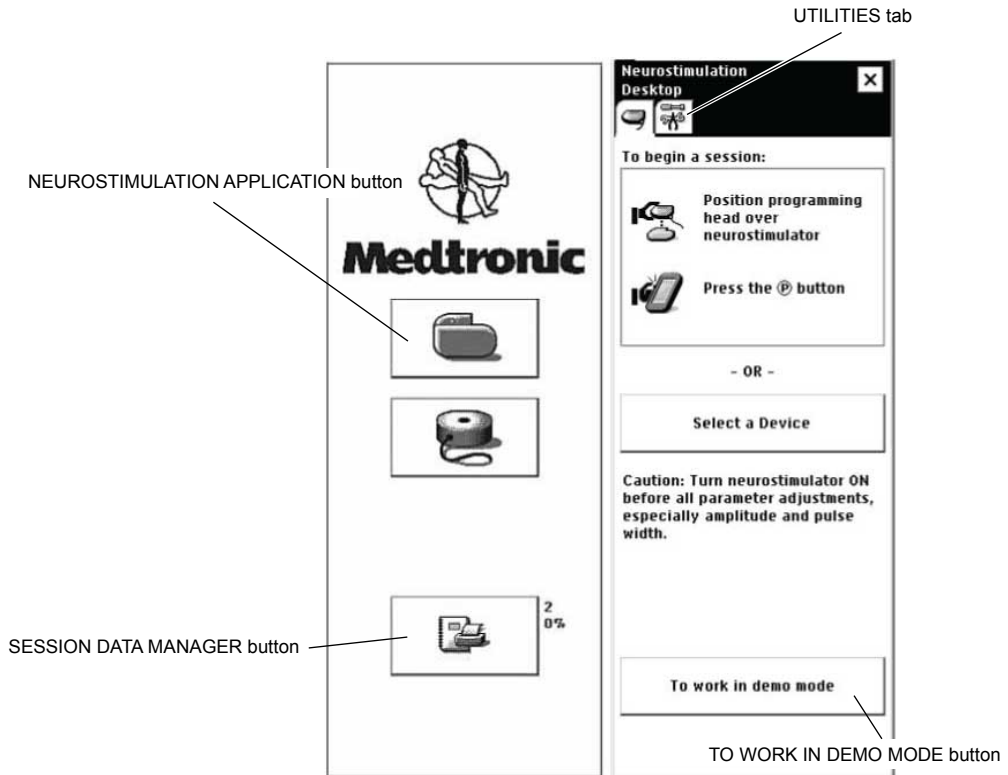

Figure 11. APPLICATION SELECTION and THERAPY DESKTOP screens.
Before beginning a programming session, insert the appropriate application card, turn the programmer ON, check the programmer battery status, and navigate to the THERAPY DESKTOP screen (Figure 11). The following tasks can be initiated from the THERAPY DESKTOP screen:
1. Turn the programmer ON. The APPLICATION SELECTION screen appears (Figure 11 on page 18).
2. Select the NEUROSTIMULATION APPLICATION button (📄). The THERAPY DESKTOP screen appears (Figure 11 on page 18).
2. From the THERAPY DESKTOP screen (Figure 11 on page 18), select the UTILITIES tab.
1. From the THERAPY DESKTOP screen (Figure 11 on page 18), select the TO WORK IN DEMO MODE button. The DEMO MODE screen appears.
1. From the THERAPY DESKTOP screen (Figure 11 on page 18), position the programming head over the neurostimulator.